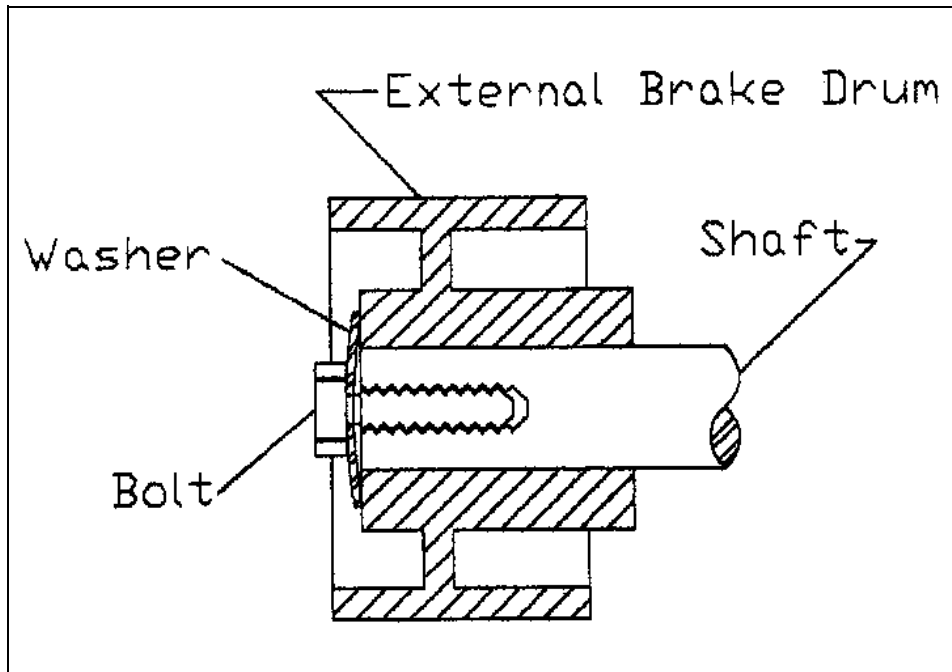

Figure 3. Shaft fitted with a high-strength bolt (no scale)
c. The same problem was discovered during periodic inspection No. 6 at Canton Lake, North Canadian River, Oklahoma. Periodic Inspection Report #6, dated November 1992, paragraph d(2) states: “It was noted that the brake drums on tainter gate Nos. 3, 8, and 12 were partially off the keyed shaft resulting in a lining to drum contact area of less than 100 percent.”
a. All facilities having this type of arrangement should be checked immediately. If the above condition exists, the drums should be repositioned and a positive mechanical stop placed on the end of the reducer shaft to secure the brake drums from “walking off.” For example, the shaft can be threaded at the end and fitted with a A325 high-strength bolt with thread locking compound (Loctide) and a large plate washer to hold the drum in place (Figure 3). Locking compound can be used between the brake drum and the shaft.